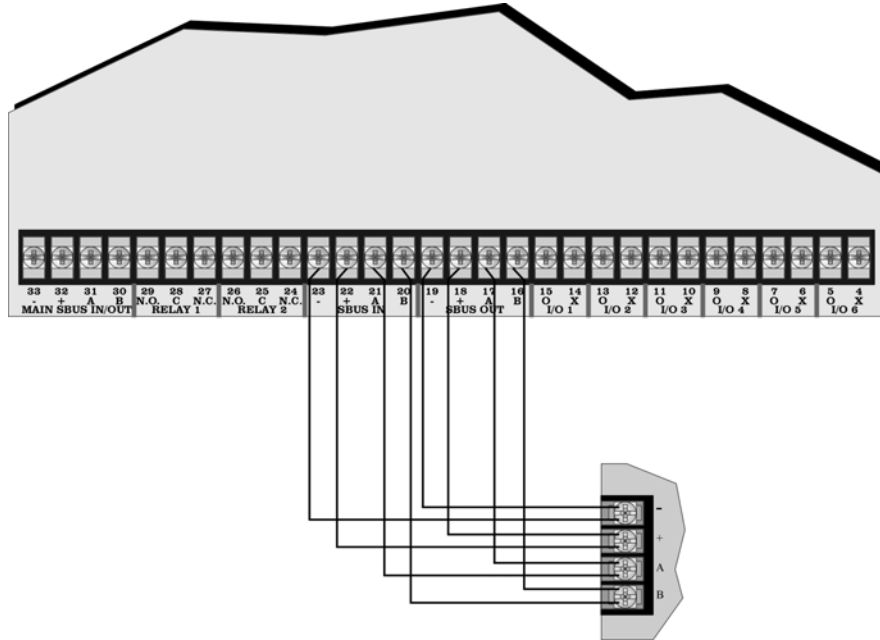
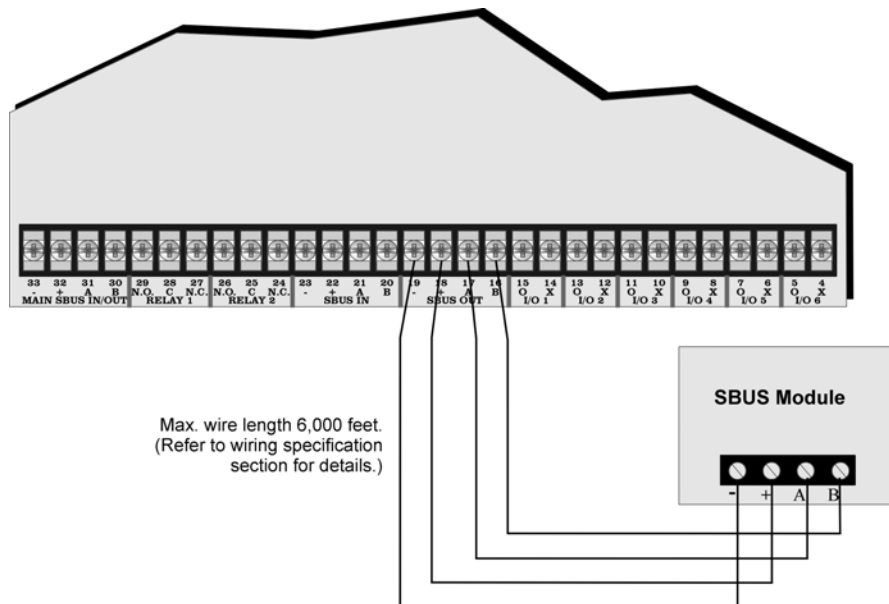

Figure 3.7 SBUS Class A Connection to FIK-RPS1000
Figure 3.8 SBUS Class B Wiring to FIK-RPS1000
See Figure 3.7 for SBUS Module Connections
1. Connect SBUS modules to the FIK-RPS1000 as shown in Figure 3.7 or Figure 3.8.